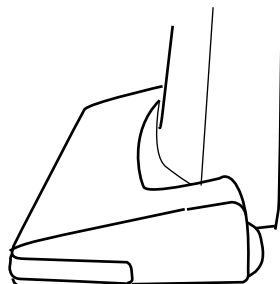

Fig. 13
- Upright position – when cleaning tools are being used or for storage (Fig. 13). Handle locks in this position.